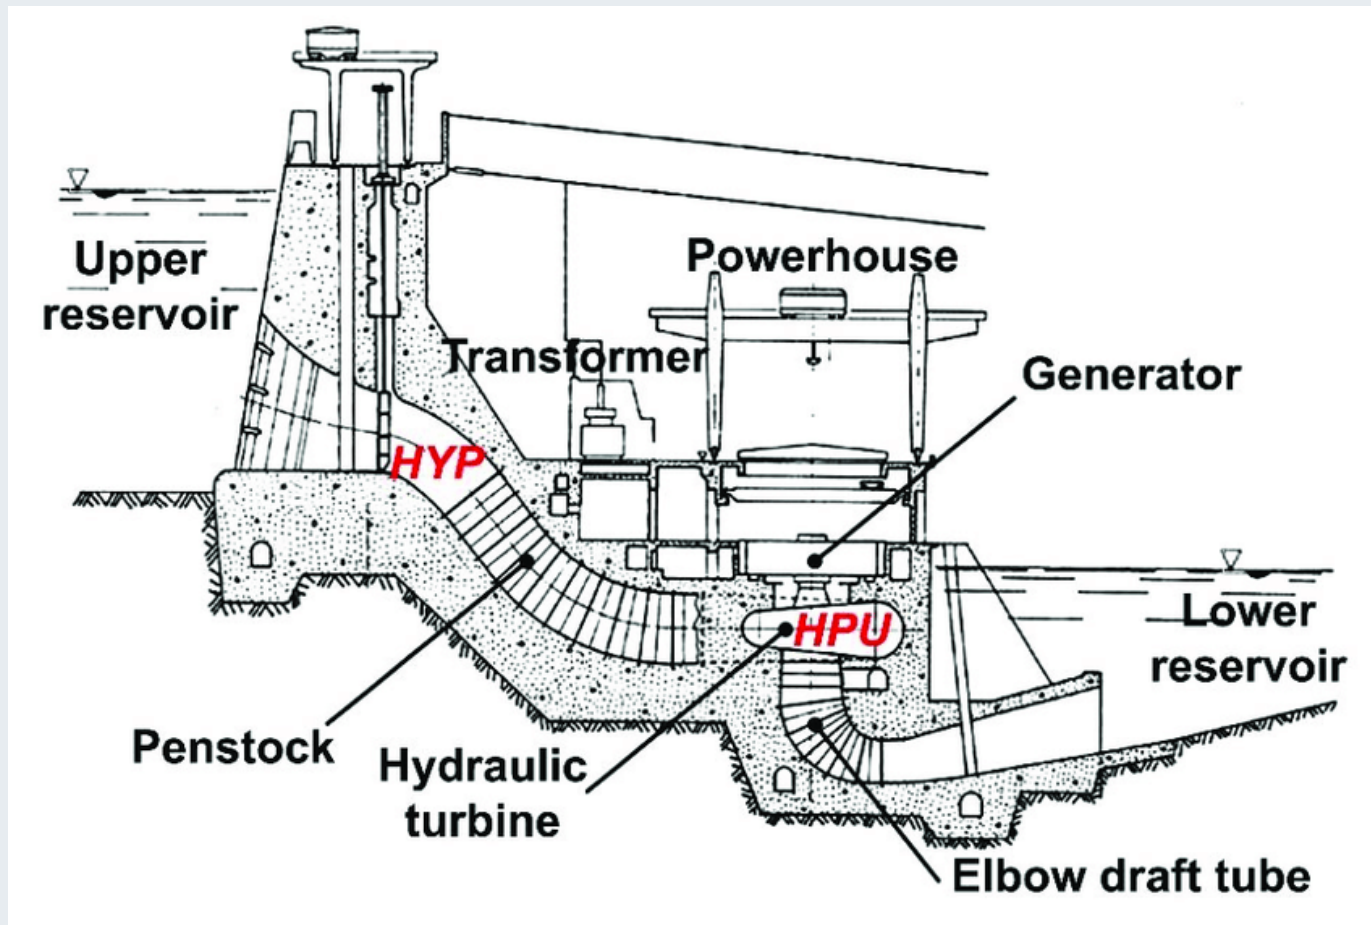

Figure 4: Generalized Hydropower Schematic Diagram[4].
- ❖ Figure 4 illustrates a generalized hydropower schematic diagram which shows main parts of hydropower plant.